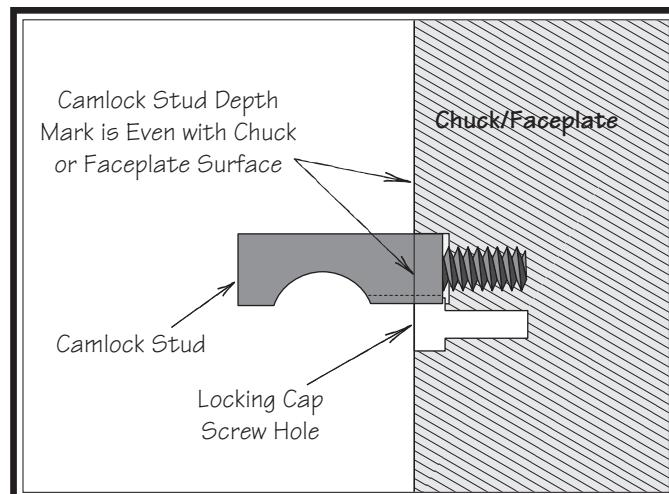

**Figure 44. Identifying chuck camlock studs and locking cap screws.**
2. If installed, remove the locking cap screw adjacent to each of the six cam-lock mounting holes (see **Figure 44**).